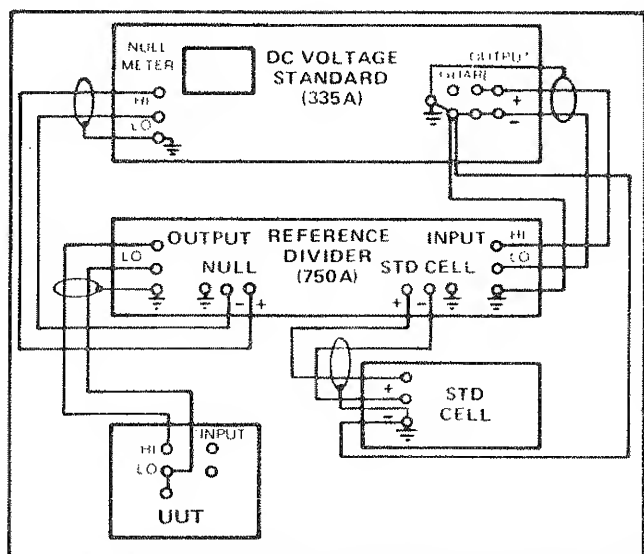

Figure 4-3. Connections for High Range DC Voltage Tests
1. Connect test equipment and the UUT as shown in Figure 4-3.